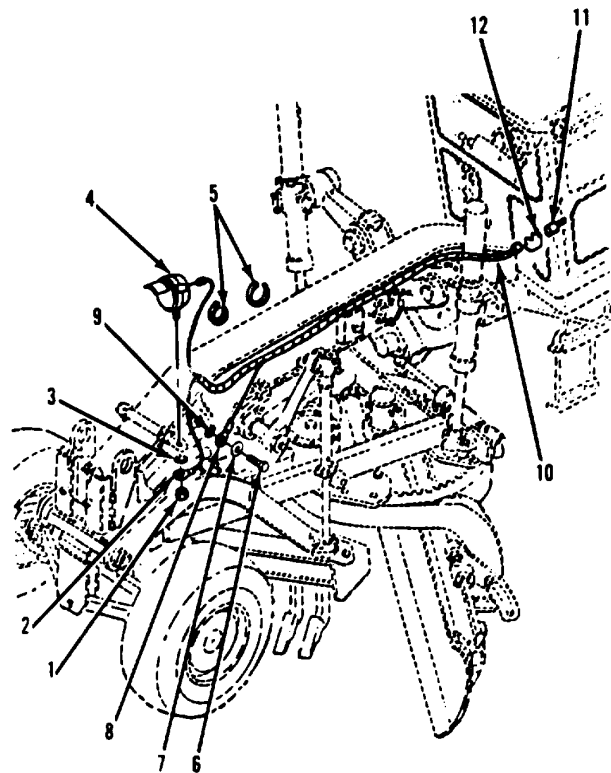

Figure 4-89.
1. Disconnect front blackout light harness assembly (11) from back of front blackout light (4, Figure 4-89).
2. Remove nut (1).
3. Disconnect wire assembly (2) from bottom of front blackout light (4).
4. Remove lockwasher (3) and front blackout light (4).
5. Cut and discard seven straps (5) from left, front frame of vehicle.
6. Remove bolt (6) and washer (7).
7. Disconnect wire assembly (8).
8. Remove lockwasher (9).
9. Remove front blackout light harness assembly (10) and main blackout light harness (11) from clip (12).
10. Disconnect front blackout light harness assembly (10) from main blackout light harness (11).
11. Remove front blackout light harness assembly (10) from vehicle.
1. Position front blackout light harness assembly (10, Figure 4-89) on left side of cab on vehicle.
2. Connect front blackout light harness assembly (10) to main blackout light harness (11) and attach to clip (12).
3. Install lockwasher (9) on left, front frame of vehicle.
4. Connect wire assembly (8).
5. Install washer (7) and bolt (6).
6. Install seven new straps (5).
7. Install front blackout light (4) and lockwasher (3).
8. Connect wire assembly (2) to bottom of front blackout light (4).
9. Install nut (1).
10. Connect front blackout light harness assembly (11) to back of front blackout light (4).